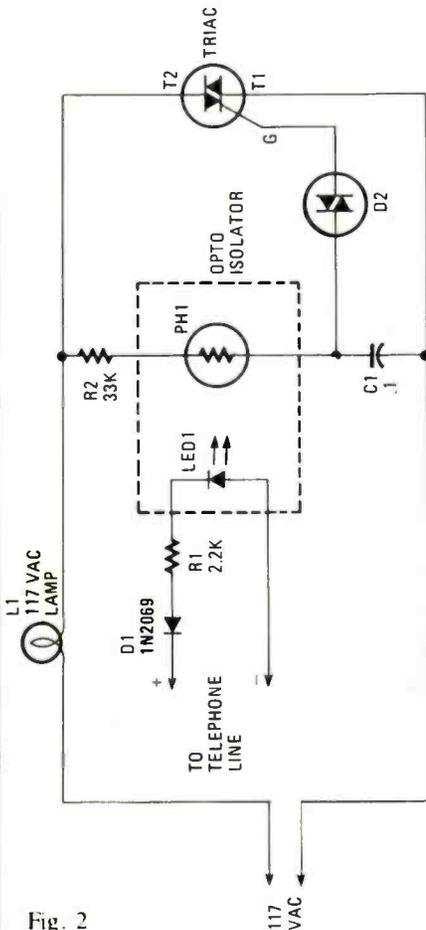

Fig. 2
Well, R.L. the circuit in Fig. 2 will solve your problem. That schematic diagram is quickly and easily converted to a working circuit and connected to your telephone lines. Then when the phone does ring, you'll know it—for the lamp you've plugged into the unit will go on with each ring of the phone! The triac is triggered into conduction by a signal applied to its gate (G) through a bilateral switch (diac), D2. As you can see, the triac acts as a switch, conducting only when a signal is present at the gate. We do want total isolation from the phone lines: That is accomplished with the optoisolator, consisting of an LED and a photocell. You can purchase such devices at electronics stores, or easily make your own by mounting a photocell and an LED in a suitable enclosure.